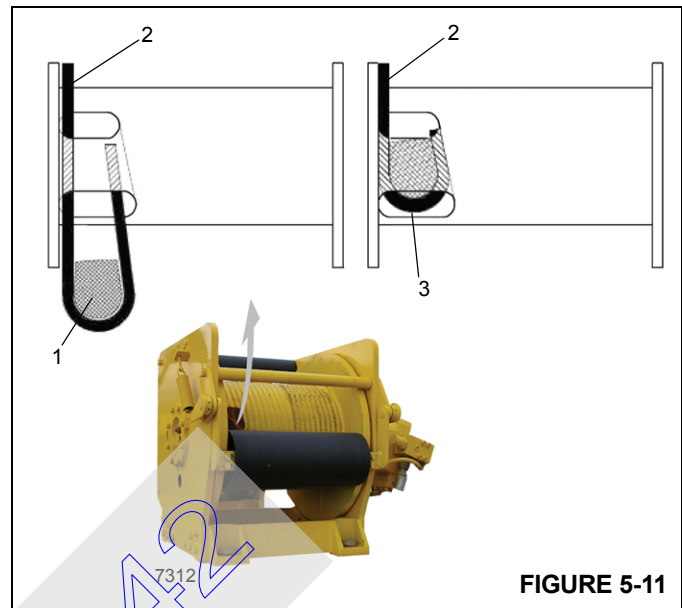

FIGURE 5-11
3. Insert the cable through the slot and position around the anchor wedge (1) Figure 5-11.